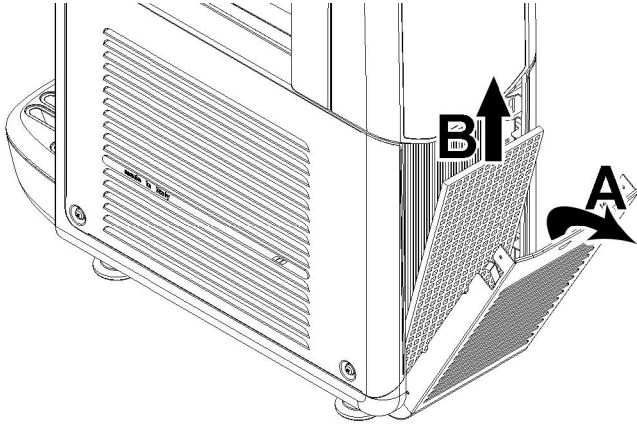

figure 24
- 2 Every month:** Remove the dust from the condenser filter on the back of the machine (see figure 24).